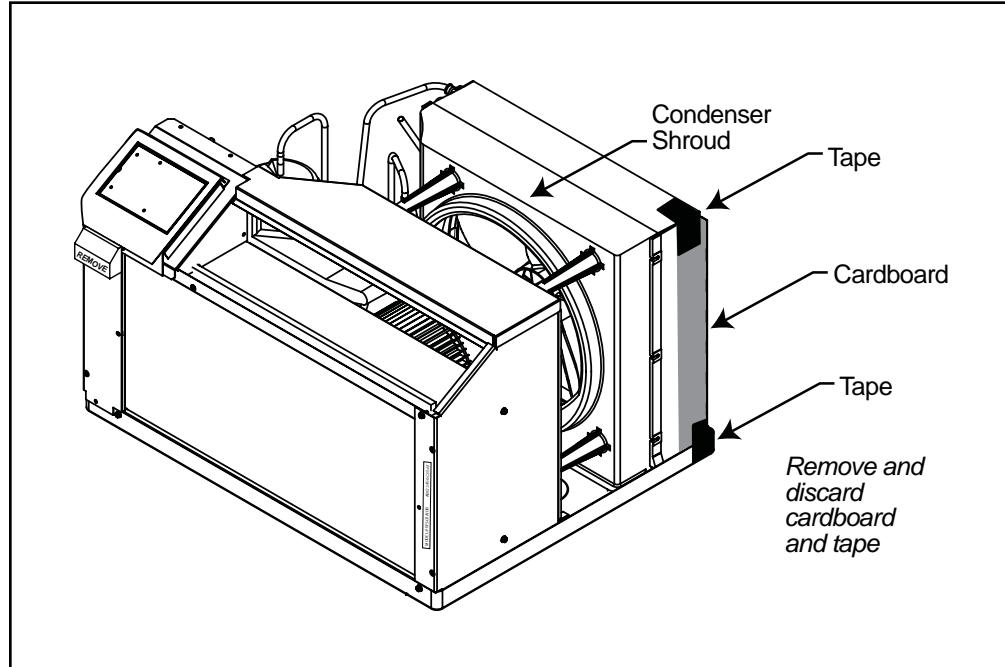

Figure 10
- A. Check the anchor screws. There should be five (5) in the WSC SLEEVE (two in each side and one in the top center).
STEP 4 With the help of an assistant, remove the chassis from the shipping carton. Remove the cardboard which is placed against the hairpins and is taped to the condenser shroud (see Figure 10). Be careful not to allow anything to impact against the hairpins as this may result in damage to them. With the help of an assistant, lift the chassis by the basepan and slide it into the sleeve until it contacts the rear grille. With the chassis in proper position, the front edge of the basepan must extend out 4-3/4 inches from the front (side) edge of sleeve.